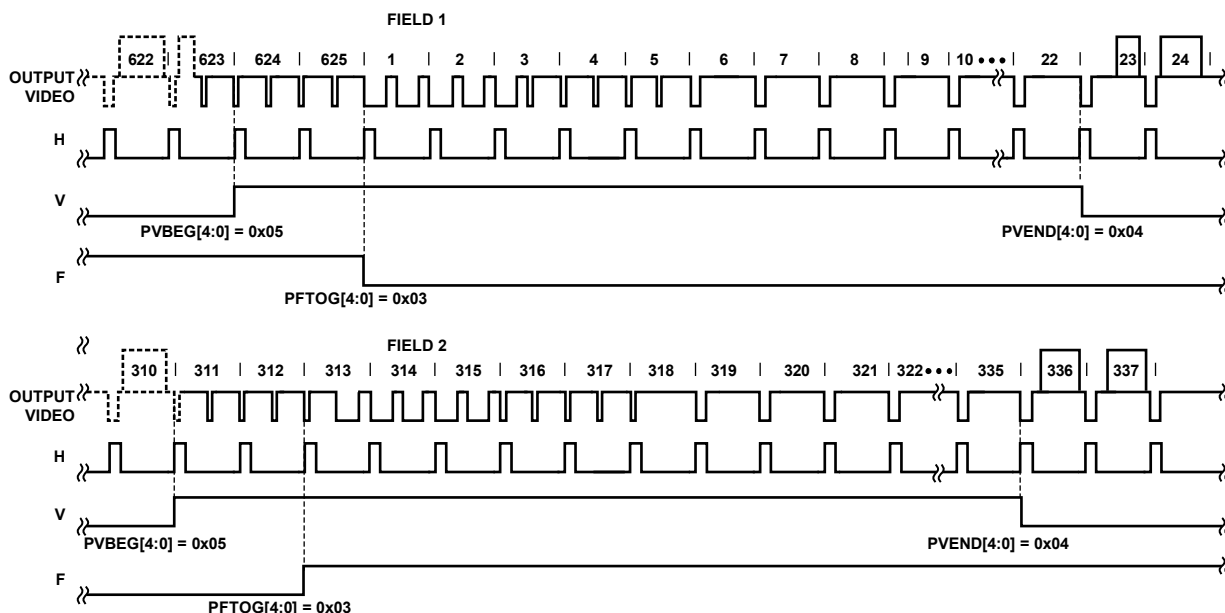
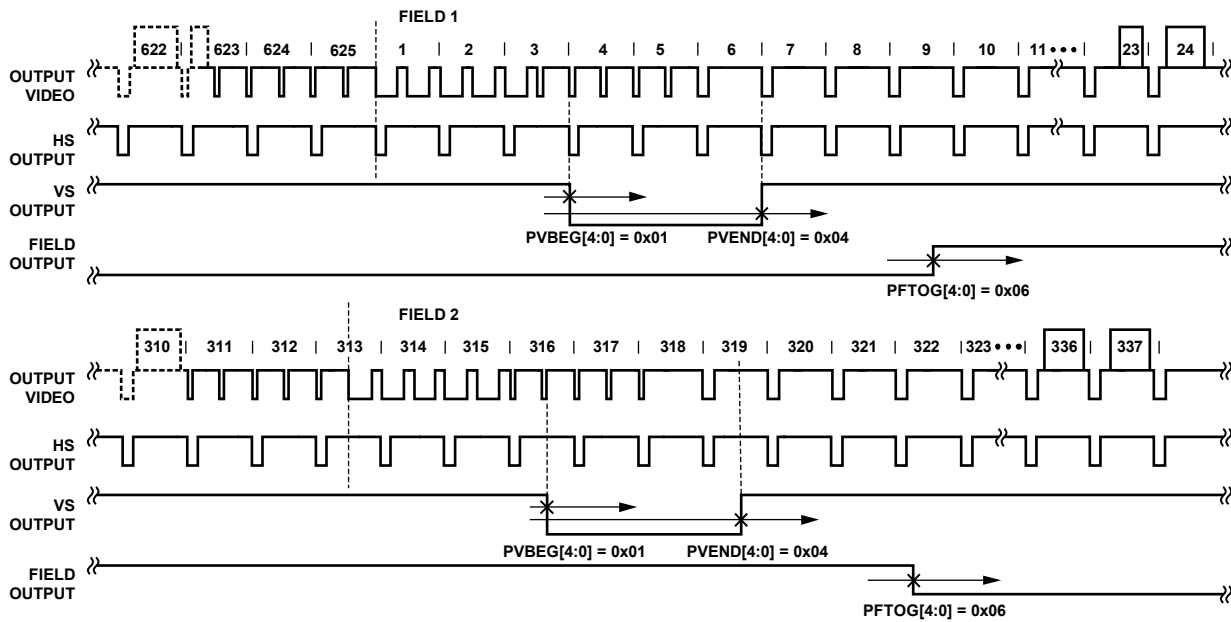

Figure 43. PAL Default, ITU-R BT.656 (the Polarity of H, V, and F Is Embedded in the Data)
Figure 44. PAL Typical VS/FIELD Positions Using the Register Writes Shown in Table 66
Setting NEWAVMODE to 1 (default) enables the manual position of the VSYNC, FIELD, and AV codes using Register 0x32 to Register 0x33 and Register 0xE5 to Register 0xEA. Default register settings are CCIR656 compliant; see Figure 38 for NTSC and Figure 43 for PAL. For recommended manual user settings, see Table 65 and Figure 39 for NTSC and Table 66 and Figure 44 for PAL.
**Table 66. User Settings for PAL (See Figure 44)**